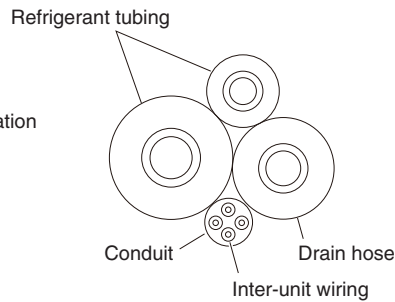

Fig. 3-97
- (5) Assemble the refrigerant tubing, drain hose, and conduit (including inter-unit wiring) as shown in Fig. 3-97.